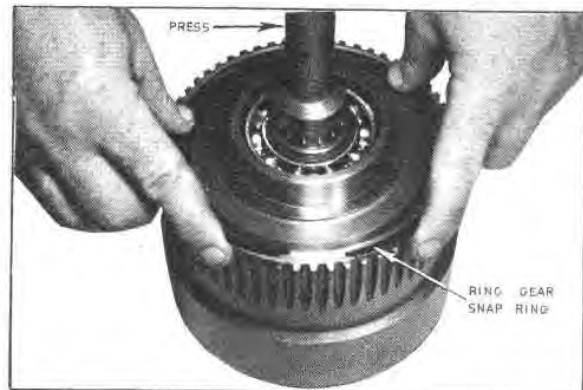

Fig. G34 — Removing the Ring Gear Snap Ring
20. Remove the ring gear snap ring (Figure G34).